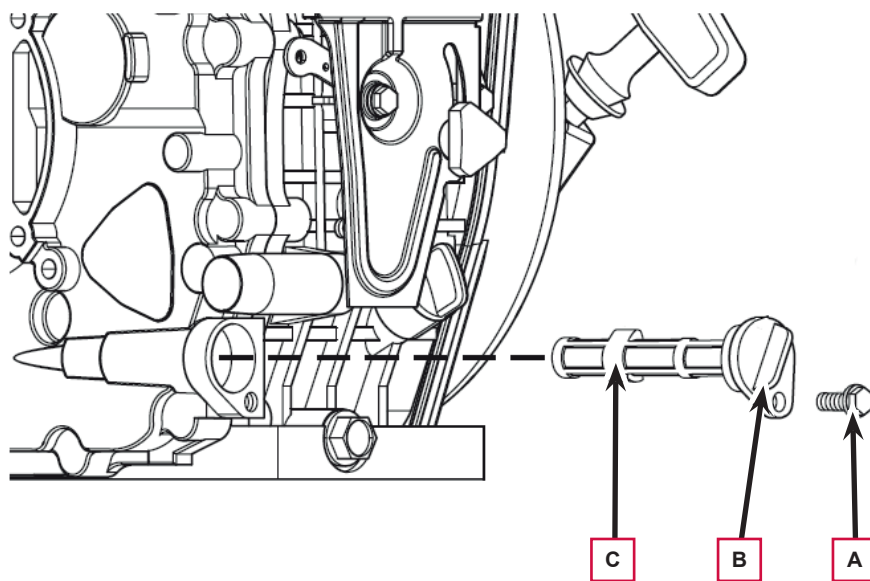

Figure 7
5. Remove the bolt (A, Figure 7).
6. Remove the cap (B) and remove the oil filter (C).
8. Install the oil filter (C).
9. Ensure that the oil filter plug (B) is completely inserted.
10. Install and tighten the retaining bolt (A).